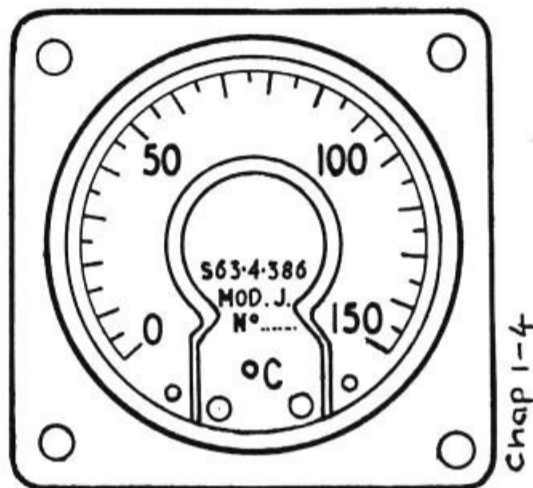

Fig. 1. Indicator, Type S63.4.386
1. This indicator (Ref. No. 6A/4701) (fig. 1) is calibrated in degrees C from 0 to 150; the indicator is controlled by variation of temperature in a resistance bulb which obeys a platinum law.